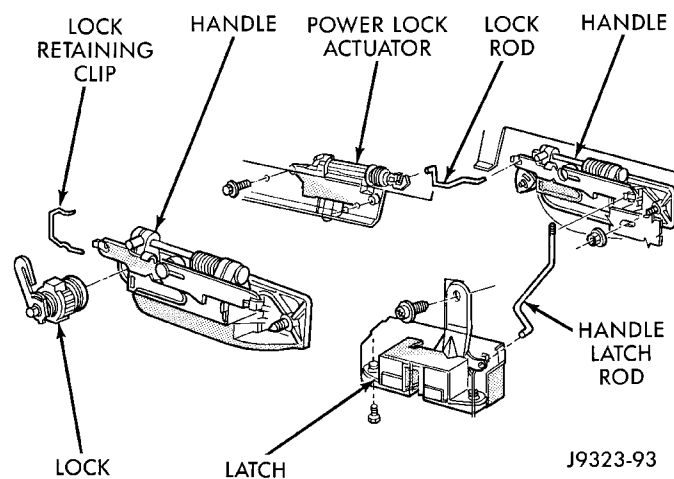

Fig. 7 Liftgate Latch/Lock Components
(5) Remove the liftgate trim panel from the vehicle.
(6) Remove the three screws that secure the liftgate latch to the liftgate (Fig. 7).